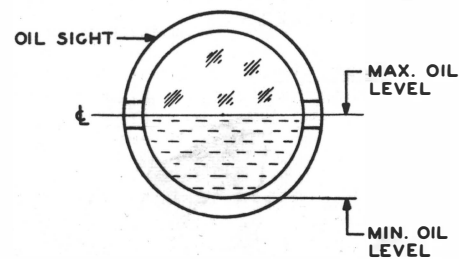

Fig. 4 - Oil Level Limits
(1) 6- and 7-type [except as covered in (a2)] 8-, 30-, 34-, 1034-, and 1134-type Drives: Fig. 4 - With the drive in operation, the level of the oil shall not be higher than the center of the oil sight glass, and shall not be lower than the bottom of the oil sight glass.